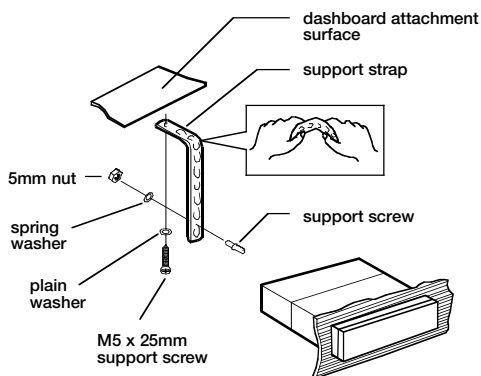

Figure 4. Forming the support bracket
5. Bend the backstrap to conform to the mounting case and the dashboard surface to which you plan to secure the backstrap (**Figure 4**). Slide one of the utility holes on the backstrap onto the support screw and fasten it with the spring washer and nut provided.